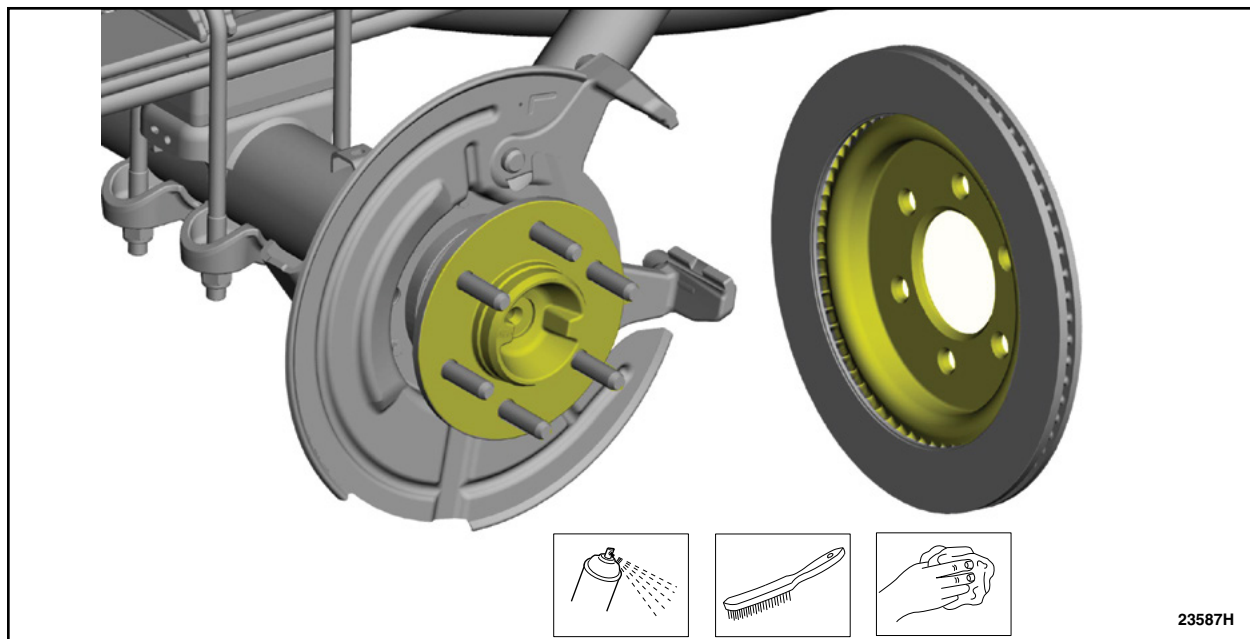

FIGURE 6
9. On both sides, clean the brake disc mating surfaces using a wire brush and the specified material. See Figure 6. Material: Motorcraft® Metal Brake Parts Cleaner / PM-4-A, PM-4-B.